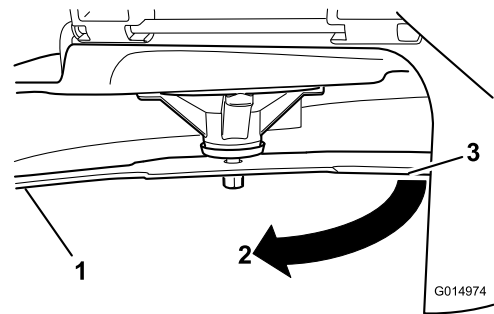

Figure 74
3. Measured distance between blade and the surface (A)
4. Rotate the same blade 180 degrees so that the opposing cutting edge is now in the same position (Figure 74).